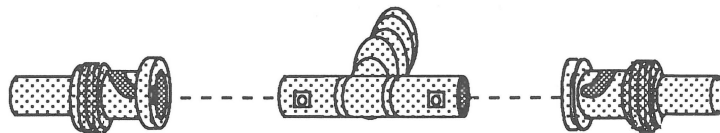

FIGURE 1
- a) Select a T-connector and two terminators from the terminator kit (Figure 1). Connect the female end of each terminator to one of the male ends on the T-connector, and give the female connector barrel a twist to the right to secure the connection.